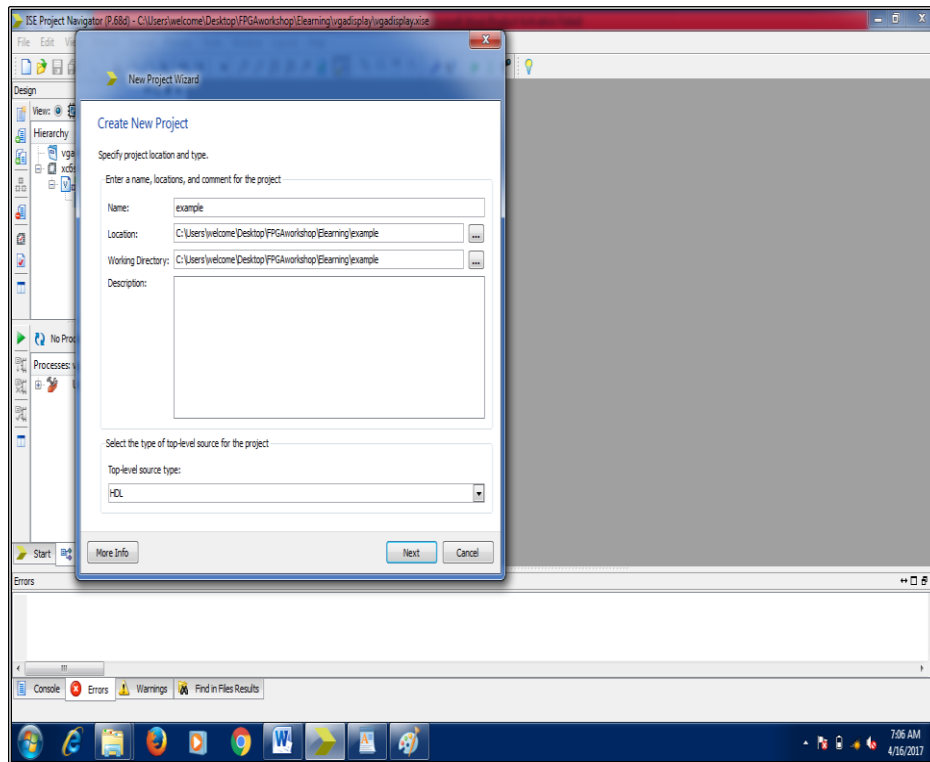

Fig C.3
3. The **New Project Wizard** window will be displayed. In the **Name** field type “example” (i.e. name of the project) and in the **Location** field, choose the directory in which you have to store the project. For the current project it is C:\Project\OR_Logic (Fig.C.3)